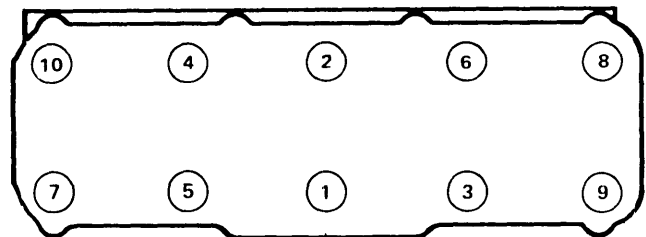

Fig. 2 Cylinder Head Tightening Sequence
5) Remove cylinder head cover. Remove cylinder head bolts. **NOTE** – Follow reverse order of cylinder head tightening sequence (see Fig. 2).
Installation – 1) Install locating dowels, if removed, in cylinder head. Install new head gasket. Install cylinder head to block and tighten bolts in sequence (see Fig. 2). Torque to 65 ft. lbs.
Cylinder Head Retorque – 1) Remove cylinder head cover. Follow cylinder head bolt tightening sequence (see Fig. 2). Loosen each bolt $\frac{1}{8}$ turn before retightening to 80 ft. lbs.